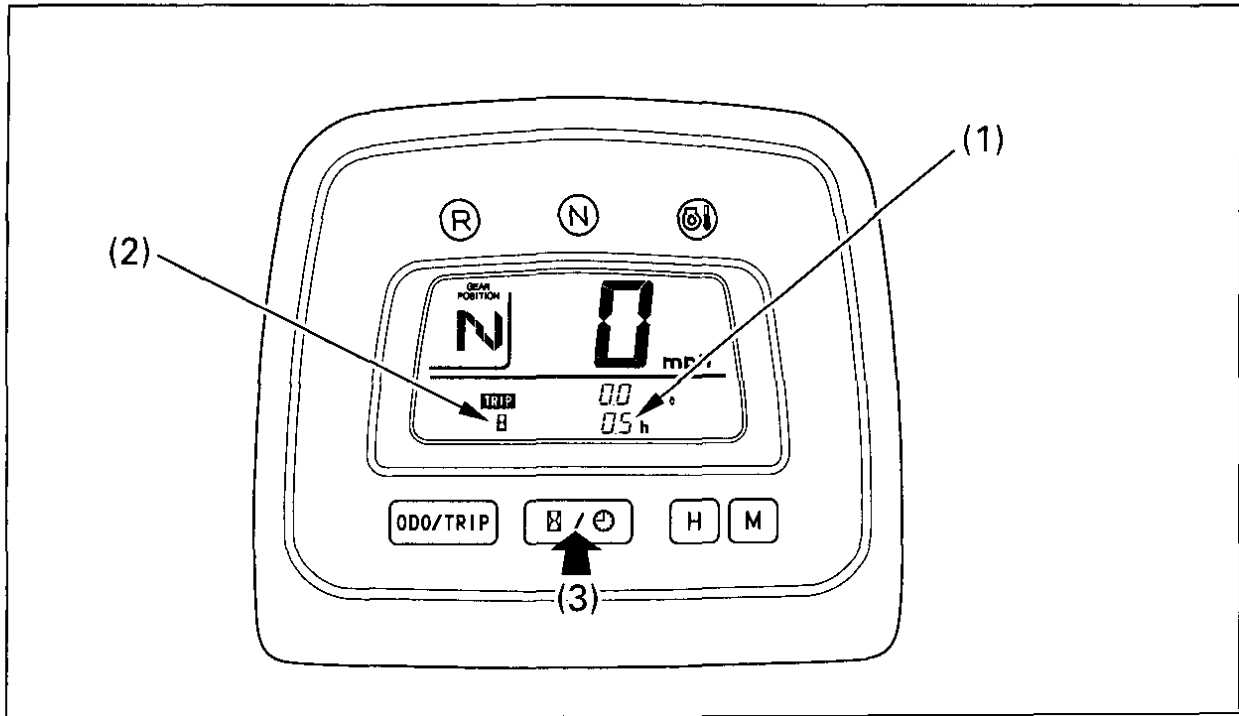

Fig. 2-19 (1) Hourmeter
When selected, the hourmeter (1) (Fig. 2-19) shows accumulated hours while the ignition is ON (I). The hourmeter provides accurate service period information for initial and regular maintenance. To change the display from the digital clock to the hourmeter mark (2), press and release the hourmeter/digital clock select button (3).